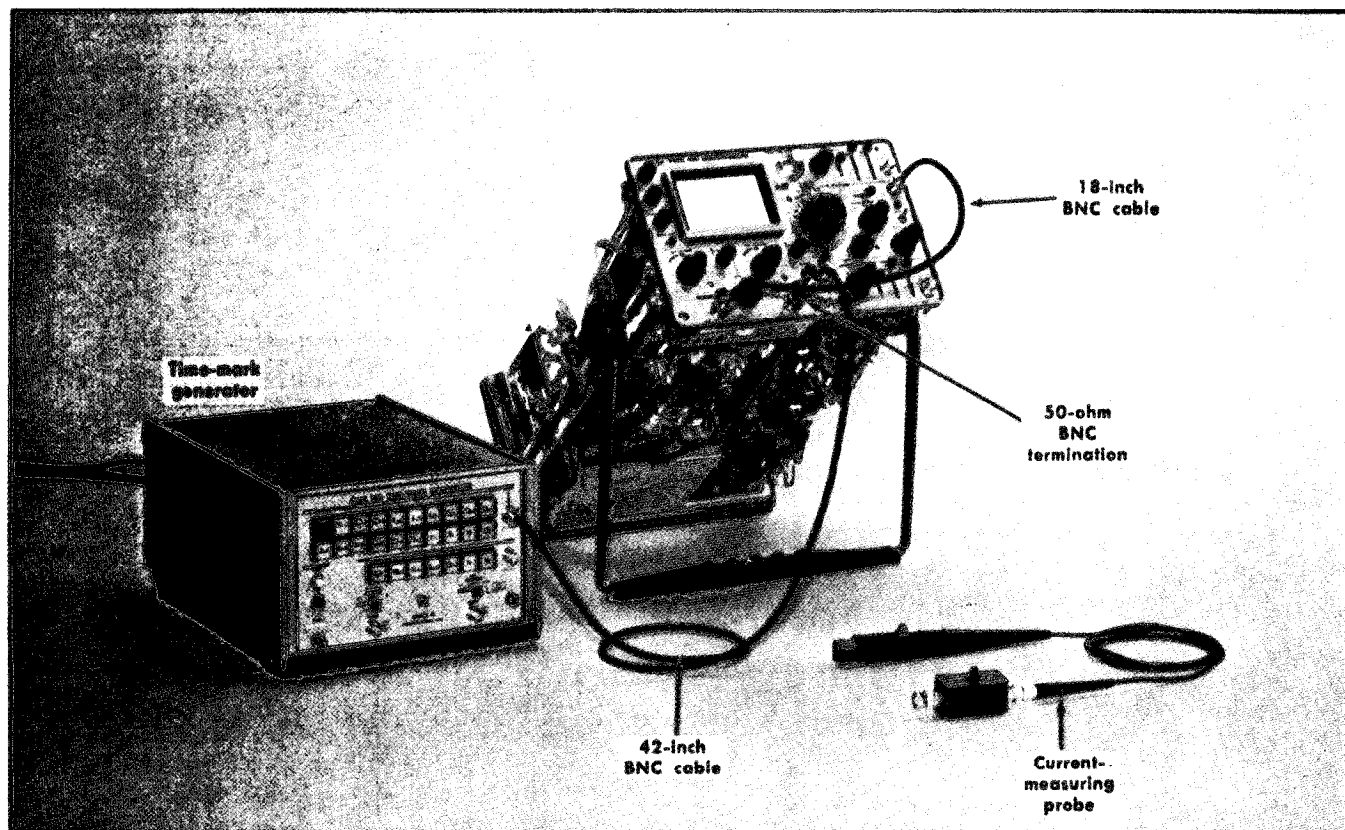

Fig. 6-55. Initial test equipment setup for steps 67 through 70.
- a. Test equipment setup is shown in Fig. 6-55.